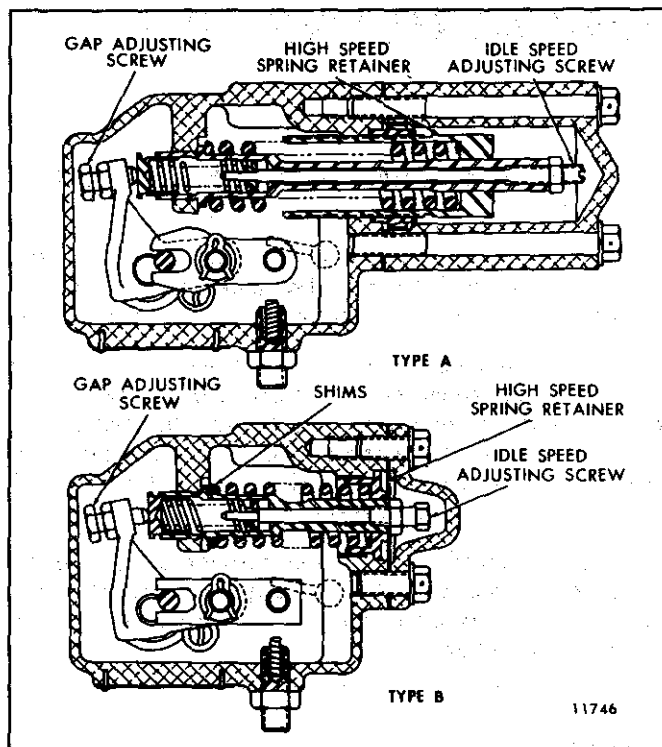

Fig. 2 - Differences Between Industrial and Vehicle Type Governor Assemblies
4. Loosen the high speed spring retainer locknut with spanner wrench J 5895 and remove the spring assembly (Fig. 2).